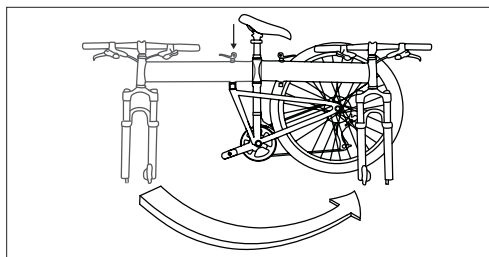

Fig. 22: Fold the bike frame in half.
6. While holding the quick release down with one hand, grasp the handlebars with the other and turn them away from you (Fig. 22).